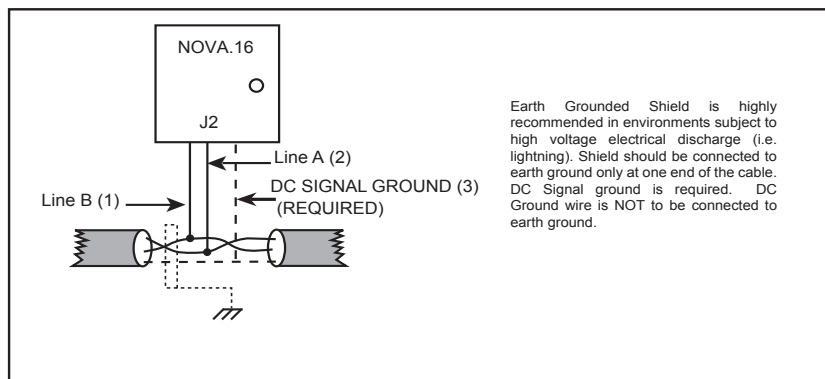

FIGURE 6
- The total RS-485 cable distance, including the distance between all NOVA.16s, may be up to 4000'. Figure 6 shows how each NOVA.16 is connected to the RS-485 bus.